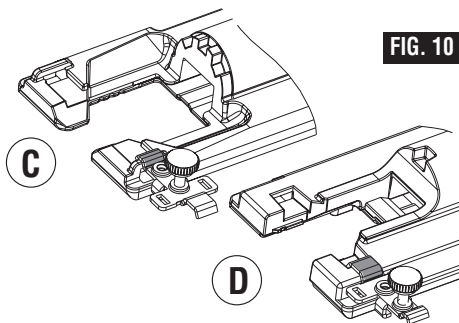

FIG. 10
One end of the clamp is used to attach the guide's bar to jig saws that have narrow tops on their footplate mounting slots (C) and the other end is used to attach the guide's bar to jig saws that have wide tops on their footplate mounting slots (D) (Fig. 10).